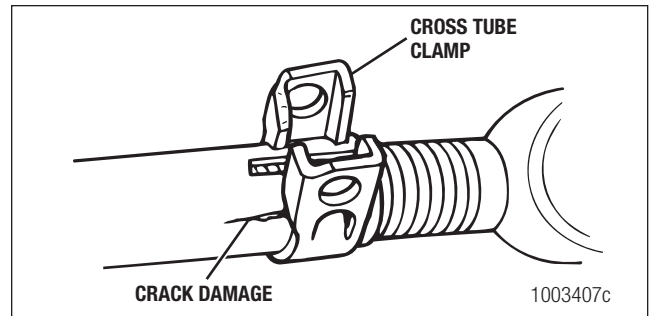

Figure 11.16
12. Inspect the cross tube and clamps for damage. Figure 11.16.